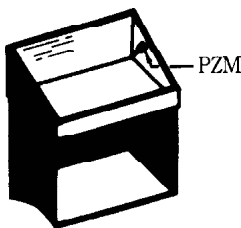

Fig. 16
- For lecterns with raised edges, you can modify your PZM as follows: remove the capsule holder by removing the two screws on the underside of the plate. Save the screws and plate for possible reassembly. Mount the capsule holder in the corner of the recess, with the holder pointing into the corner (as in Fig. 16). This configuration makes the pickup more directional but allows less talker wandering.